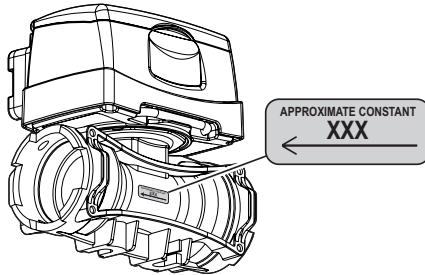

Fig. 21
**C)** Press to save changes or **D)** Press to exit current page without confirming changes. Refer to the label on the body (Fig. 21).